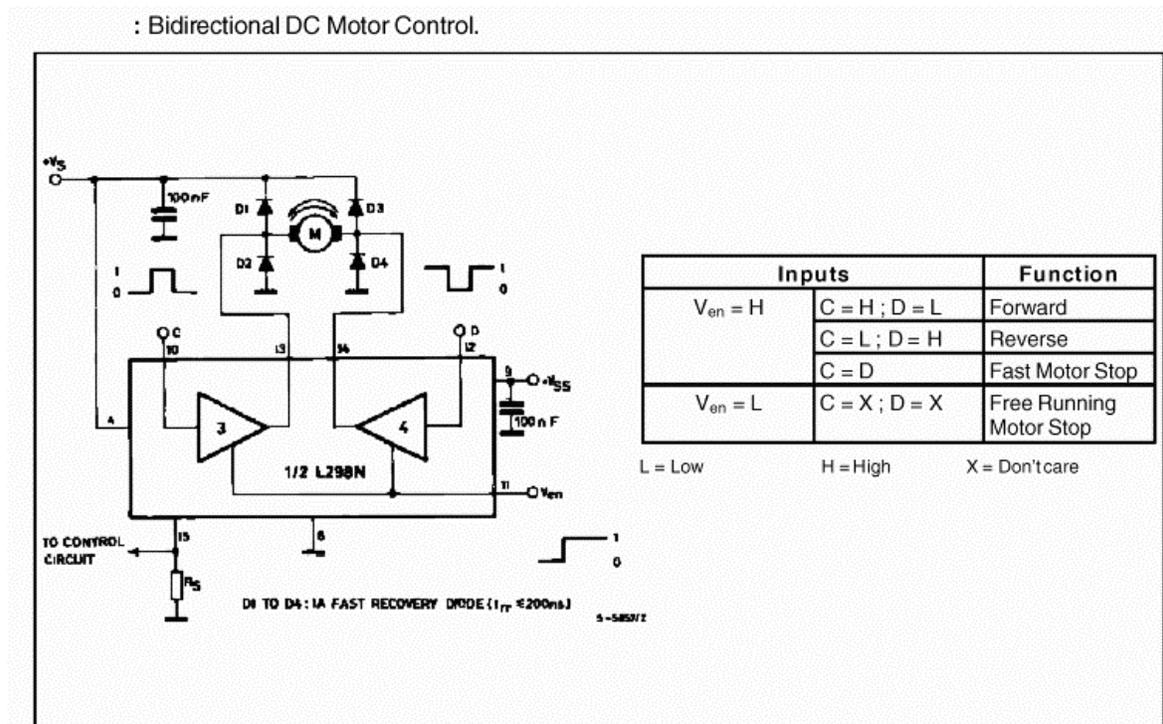

Figure 2: Bidirectional motor control using the L298 Motor Driver kit.
The L298 Driver kit provides you the L298 chip, which is capable of controlling 2 motors independently, along with the associated flyback and freewheeling diodes, bypass capacitors, etc. Only one half of the kit is used. Figure 2 below shows one possible arrangement to connect the kit to a power supply (V_s) and use Pins C, D and V_{en} to control the operation of the motor. Make sure you understand how the L298 motor driver chip and the L298 kit work before you proceed any further. Connect Input 1(C), Input 2(D) and Enable (V_{en}) to the HC11 logic pins of your choice. Use the precision variable voltage supply available at each desk (set at +5V/0V for use in the voltage divider) to power to the kit.